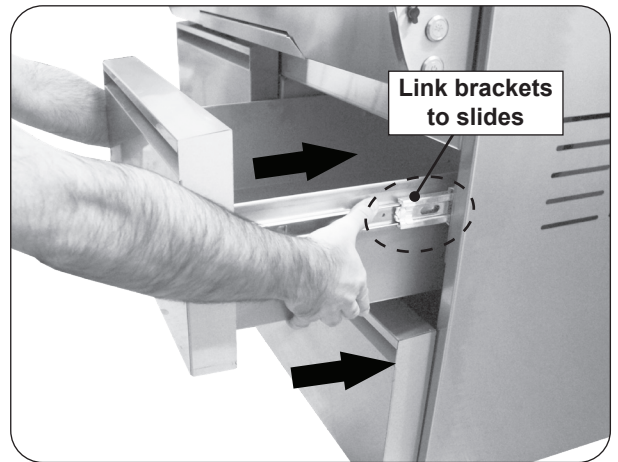

Fig. 13-1 Re-install Drawers
2. Carefully push the drawer to the closed position. See Fig. 13-1.